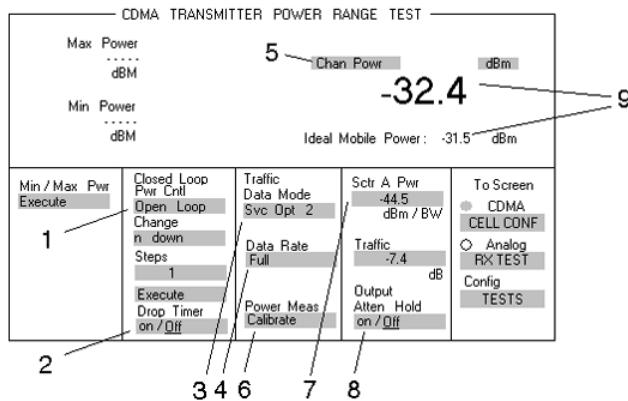

Figure 13. CDMA TRANSMITTER POWER RANGE TEST Screen
1. Go to the CDMA TRANSMITTER POWER RANGE TEST screen, see Figure 13.
2. Move the cursor to the **Sctr A Pwr** field (item 7).
3. On the test set, set the **Sctr A Pwr** field in the CDMA TRANSMITTER POWER RANGE TEST screen to **-40 dBm** (see Figure 13, item 7).
4. For testing PCS phones only, on the test set, set the **Output Atten Hold** field to **on** (see Figure 13, item 8).